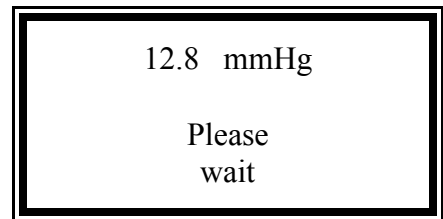

Figure 4-6 *Waiting for a plateau condition after the first sample injection*
1. Gently inject 200 μ L of sample. The display will change to "Please wait" as the COP reading rises toward the plateau (see Figure 4-6).